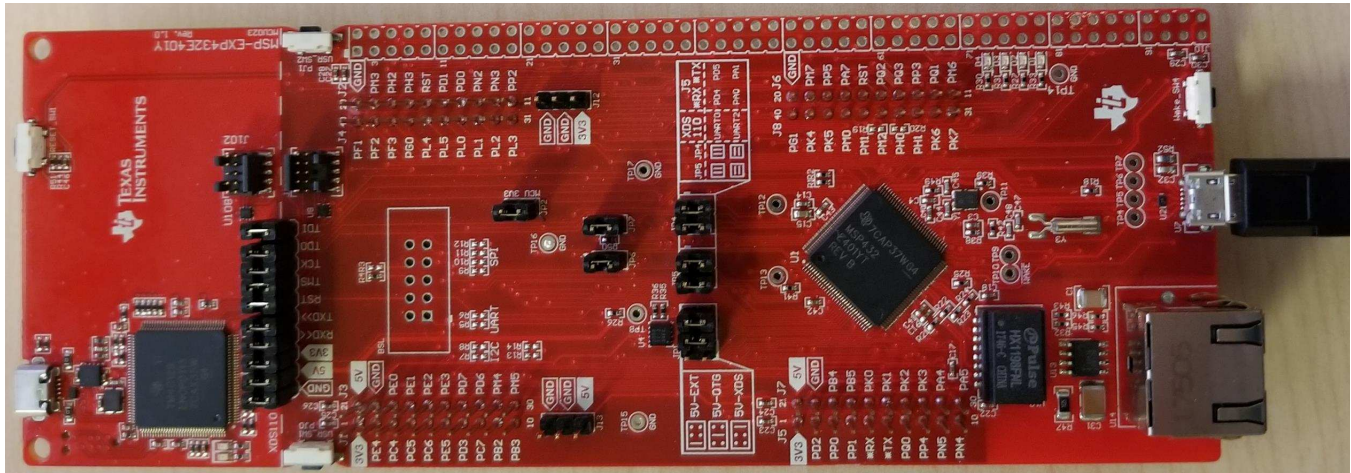

Figure 38. LaunchPad Connection for GUI Operation
9. Close the UniFlash program, disconnect the Micro-USB from the LaunchPad and connect it to the USB port U7 on the other side of the LaunchPad, as shown in Figure 38.